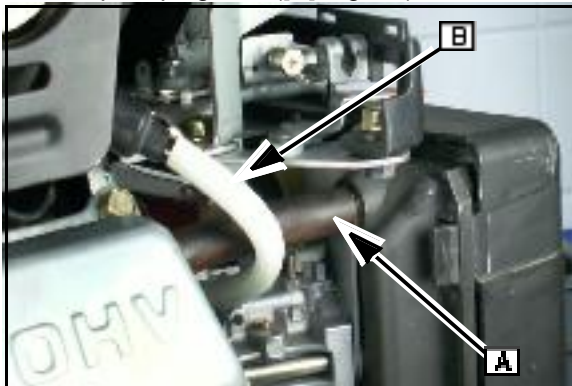

Fig. 22
15. Install the breather tube (A) and route the spark plug wire ([B] Fig. 22) as shown.